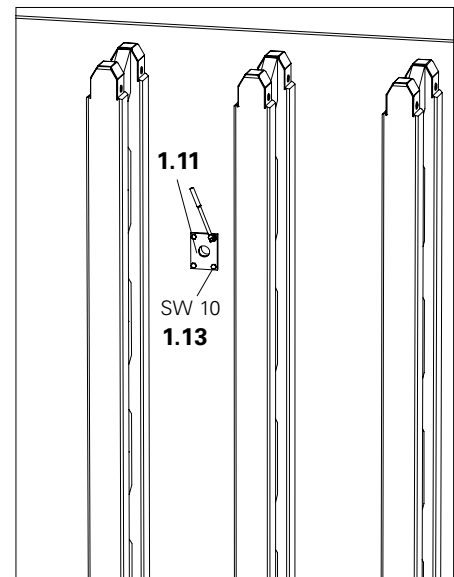

Fig. A5.08
3. Mount the Anchor Positioning Plate M24 (1.11). Wood screws 6 x 20 DIN 571, SW 10 (4x) (1.13). (Fig. A5.08)